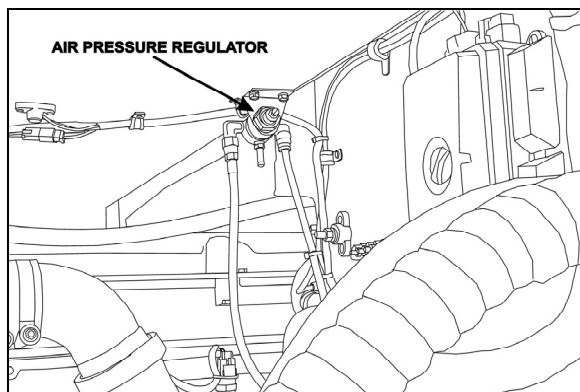

FIGURE 12: AIR PRESSURE REGULATOR (TYPICAL) 07037
20. Adjust the retarder pressure to 80 ± 3 psi with the air pressure regulator. For more information refer to Section 12, "BRAKE AND AIR SYSTEM", under heading "AIR PRESSURE REGULATOR". The air pressure regulator is located in the engine compartment, above the rear junction box (Fig. 12).